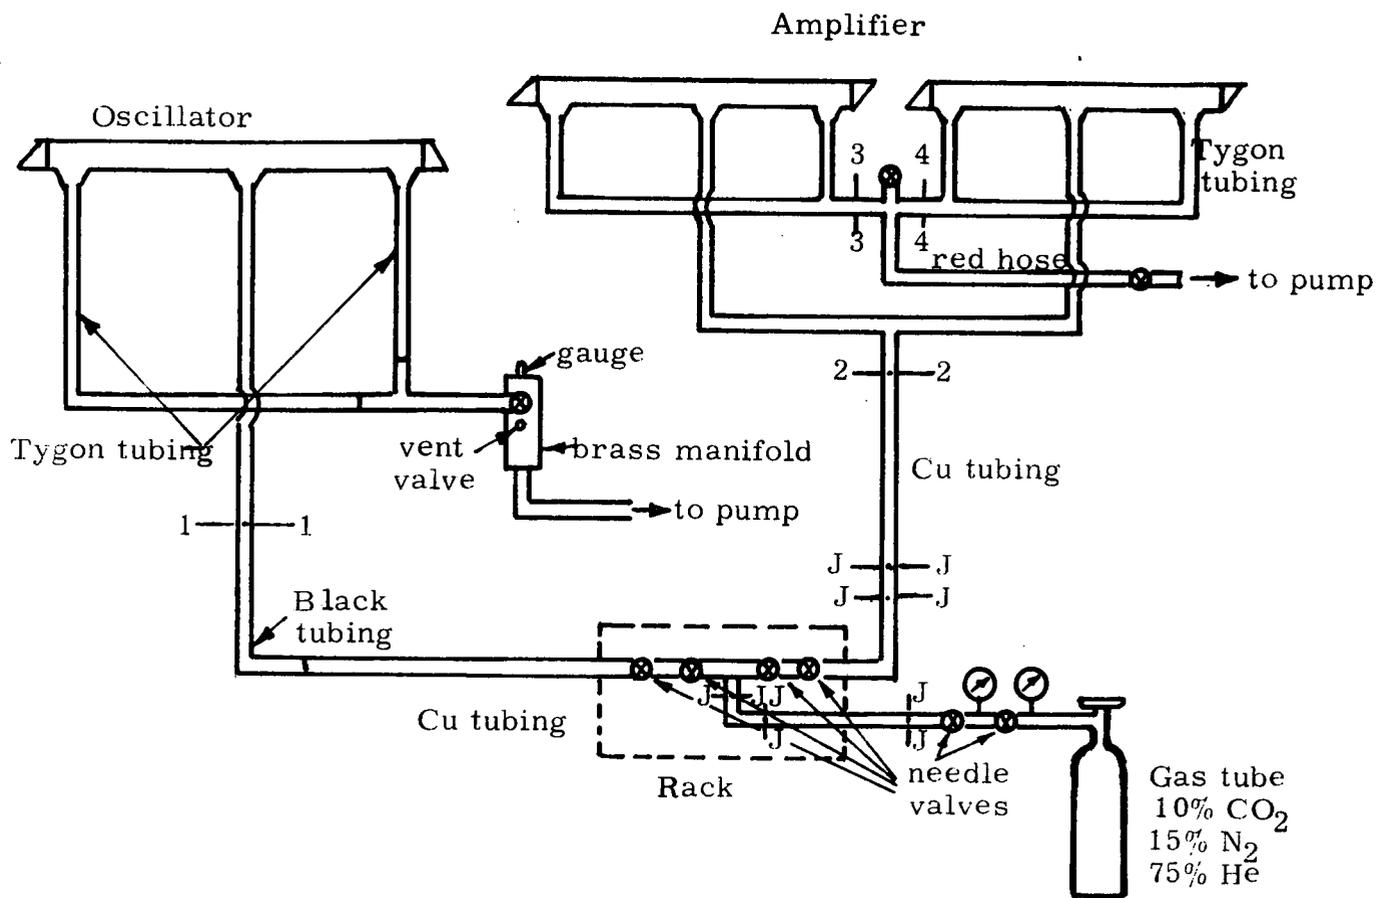
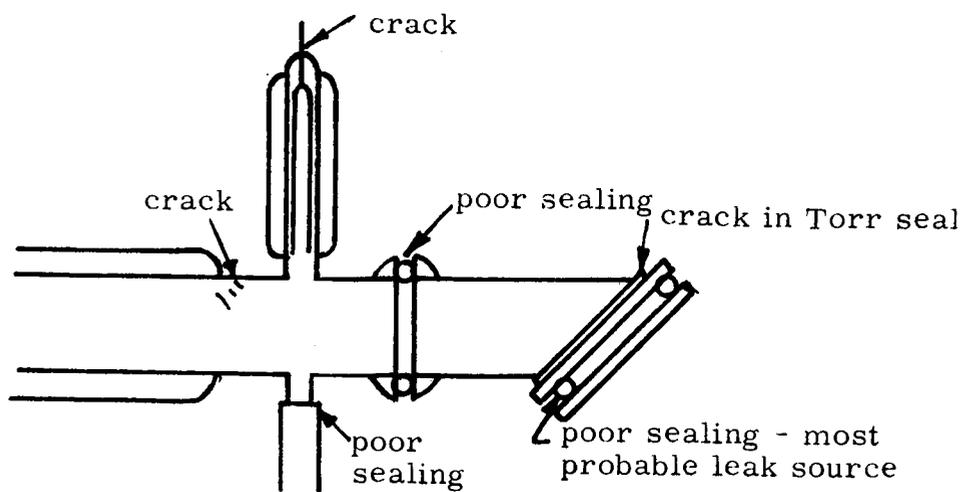

Figure 1. Vacuum system
Figure 2. Probable leak sources at the Brewster ends
### B. Vacuum system (see figure 1)
- a. Close off the connecting line from the gas supply by clamping the black hose to the laser oscillator (1. in Fig. 1) and the transparent one to the amplifier (2. in Fig. 1). Have the two close off valves closed. If the pressure goes down to 200 micron: open one and then the other to determine where the leak is. The most probable leak sources are the soldered copper joints, (J in Fig. 1). Resolder the joints using the small torch.
- b. If the leak is not found by the previous arrangement, close off the connecting valve (at the side of the bench) for the amplifier. If pressure goes down, find out which of the two amplifiers is leaking by closing off the appropriate red thick vacuum tube (3 and 4 in Fig. 1). The most probable source of leak is at the Brewster ends (see Fig. 2). Check this by the following procedure: